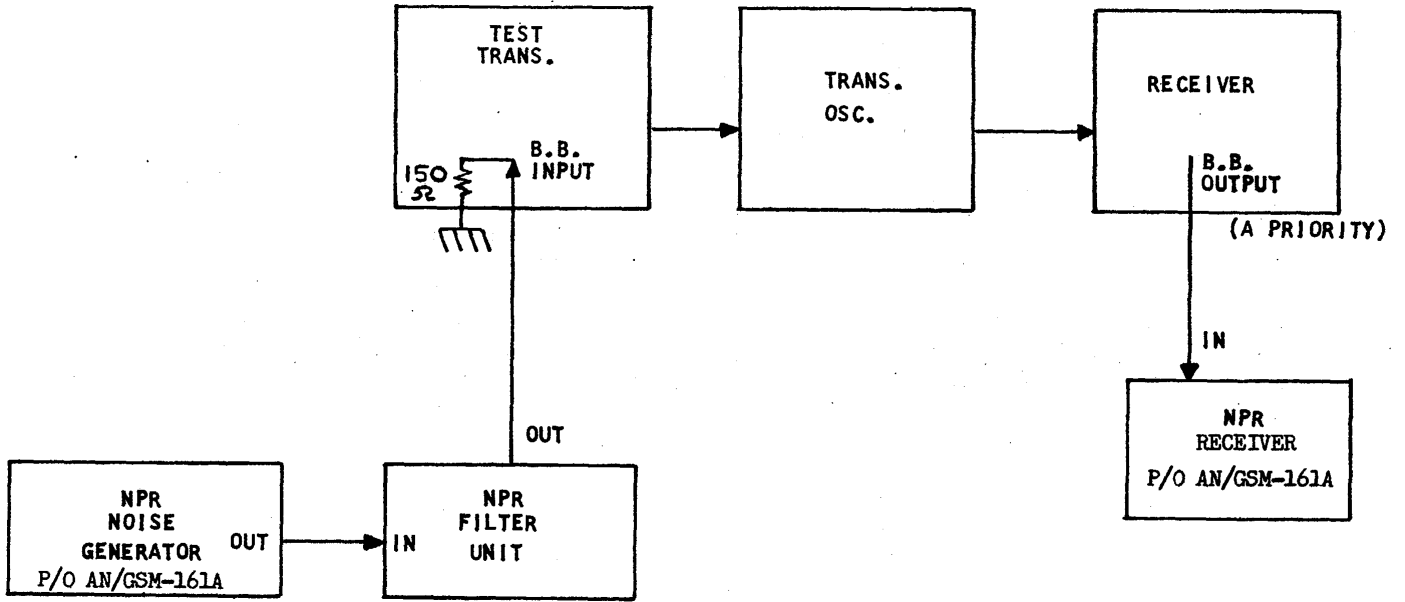

Figure 6-3. Threshold Extension Test Setup
- e. Connect the npr test equipment to the test transmitter baseband input and receiver A baseband output as illustrated in figure 6-3. (Refer to TM 11-6625-1565-14-1 for npr test set)